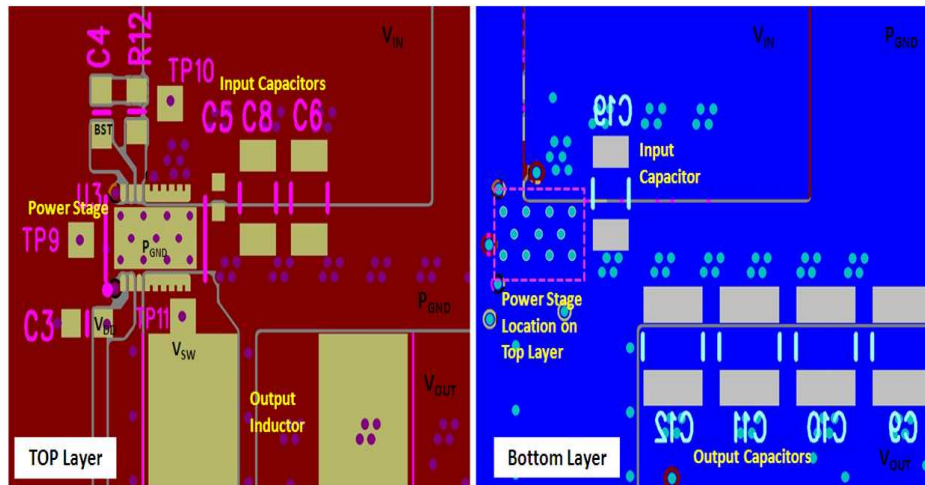

Figure 16. Recommended PCB Layout (Top Down View)
- The placement of the input capacitors relative to  $V_{IN}$  and  $P_{GND}$  pins of CSD97374Q4M device should have the highest priority during the component placement routine. It is critical to minimize these node lengths. As such, ceramic input capacitors need to be placed as close as possible to the  $V_{IN}$  and  $P_{GND}$  pins (see Figure 16). The example in Figure 16 uses 1 × 1-nF 0402 25-V and 3 × 10-μF 1206 25-V ceramic capacitors (TDK Part # C3216X5R1C106KT or equivalent). Notice there are ceramic capacitors on both sides of the board with an appropriate amount of vias interconnecting both layers. In terms of priority of placement next to the power stage C5, C8 and C6, C19 should follow in order.
- Use the smallest drill size allowed in your design. The example in Figure 16 uses vias with a 10-mil drill hole and a 16-mil capture pad.